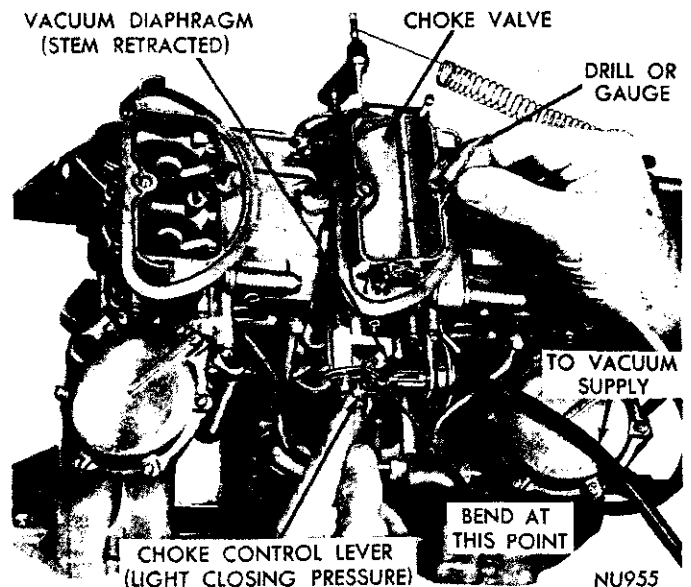

Fig. 29—Vacuum Kick Adjustment
gine running, position the fast idle tang (Fig. 29) (Cam position adjustment) to allow choke closure to kick position. If auxiliary vacuum source is to be used, open throttle valves, (engine not running) and move choke to closed position. Release throttle first, then release choke.
(3) Insert the specified drill (see specifications) between the choke valve and the wall of the air horn (Fig. 29). Apply sufficient closing pressure on the lever to which the choke rod attaches to provide a minimum choke valve opening without distortion of the diaphragm link. Note that the cylindrical stem of